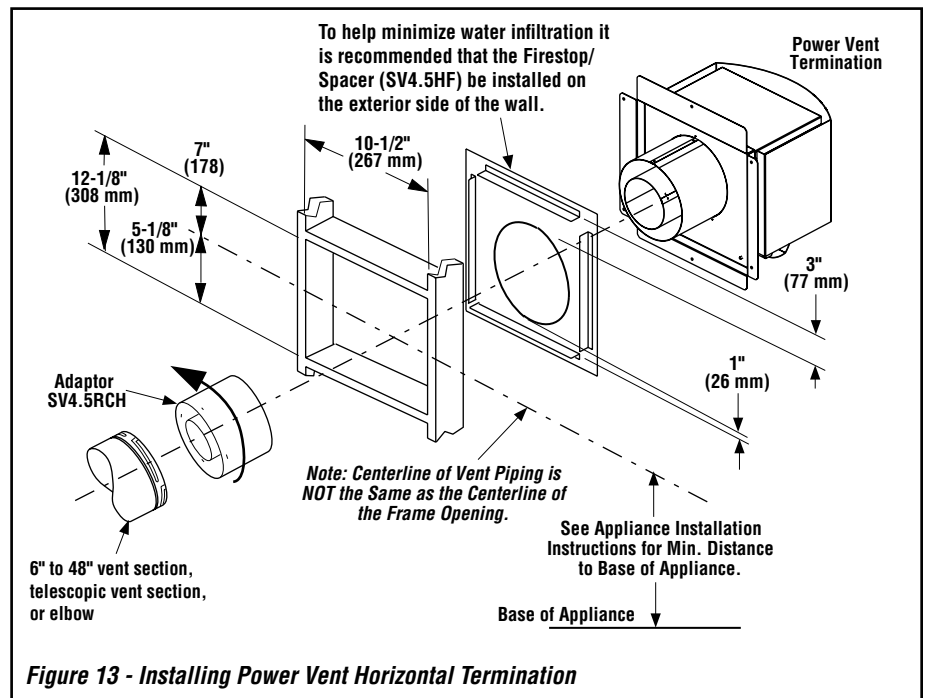

Figure 13 - Installing Power Vent Horizontal Termination
- 8.2. See *Figure 13*. Attach the **termination adaptor** (SV4.5RCH) [#12] to the last vent section. Attach the termination adaptor in the manner shown in *Figure 4*, "Connecting Secure Vent® Components."
- 8.3. See *Figure 13*. Install the **firestop/spacer** (SV4.5HF) [#13]: